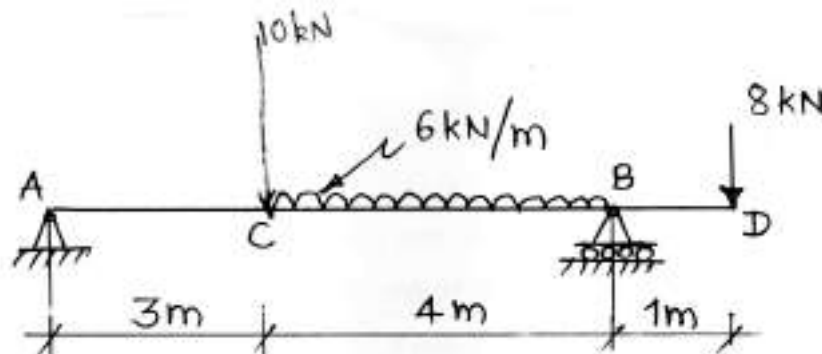

Fig. No. 6.
- a) Determine analytically the reactions of the beam loaded as shown in Fig. No. 6. Also show the direction of reaction at hinged end.